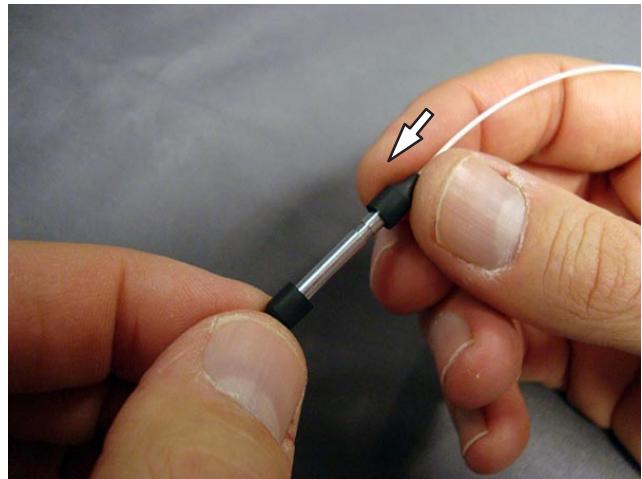

Figure 25
13. (Optional) Slide the boots onto the splice until they bottom on the shoulder. See Figure 25.